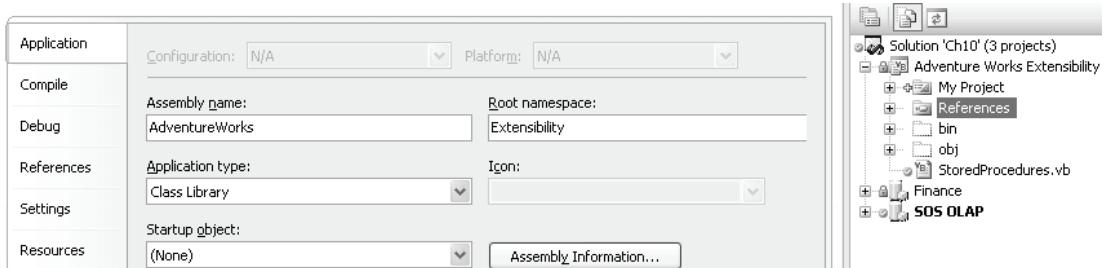

Figure 11.4 Stored procedures are hosted in .NET assemblies.
2. In the Adventure Works Extensibility project properties, click on the Application tab. Change the assembly name to **AdventureWorks** and the root namespace to **Extensibility** (Figure 11.4).